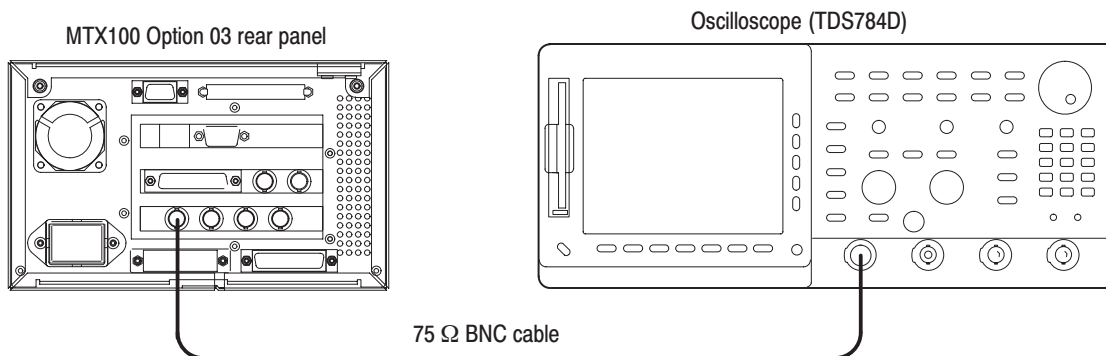

Figure 4-14: Initial equipment connection for verifying the BNC serial interface
1. Use the 75 Ω BNC cable to connect the DATA connector on the MTX100 Option 03 to the oscilloscope CH1 input as shown in Figure 4-14.